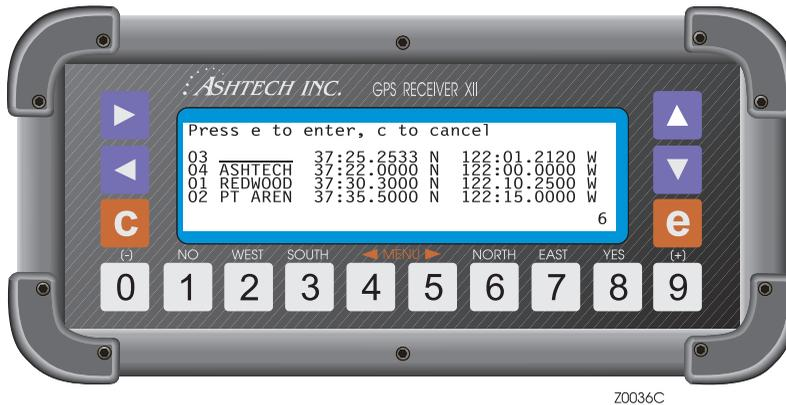

Figure 3.29. Screen 6 - Without Route
1. Highlight the function "SET DISPLAY" and press **[e]**. A simulation of Screen 6, without the route, displays (Figure 3.29).